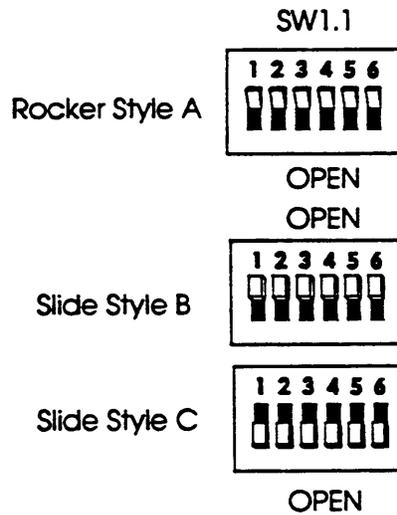
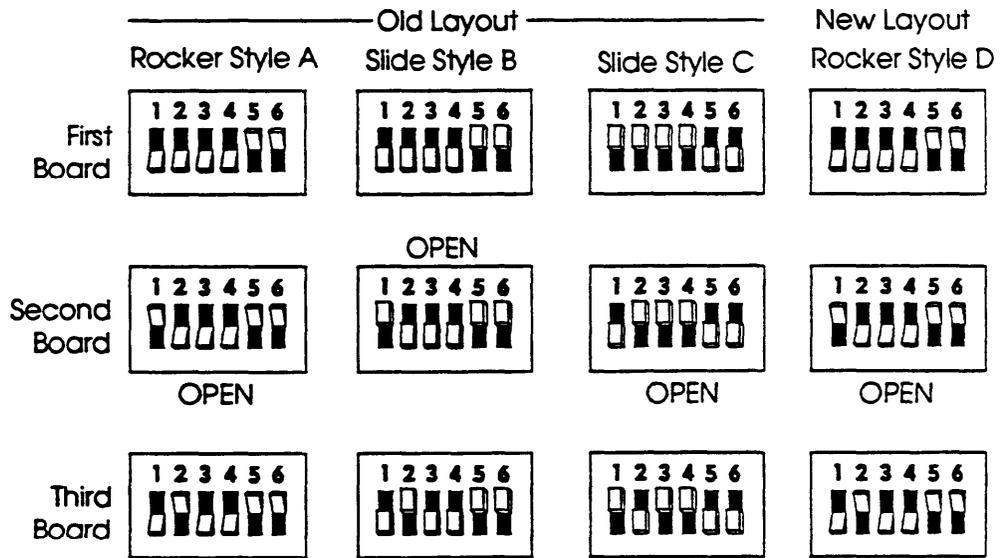

Figure 3-25. Settings for SW1.1 (Old Layout Boards Only)
Figure 3-26. Address Switch Settings
On old layout boards, the first switch bank (SW1.1) controls the line impedance. The settings should all be set to the "OPEN" position initially (as shown in Figure 3-25 for each style). If problems are encountered with Touch-Tone recognition on any channel, change the switch for the affected channel on the first bank (SW1.1) to the opposite (closed) position.
Figure 3-26 shows the correct settings for each of the four styles.
1. Set the switches for each board according to its style and board position. See Figure 3-25 and Figure 3-26. If you are testing to determine board style, set the switches for style C the first time as most boards with slide switches are style C.